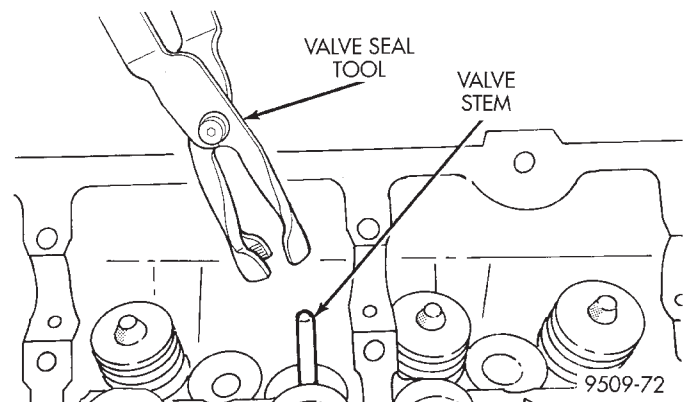

Fig. 109 Valve Stem Oil Seal Tool
(1) Coat valve stems with clean engine oil and insert in cylinder head.
(2) Install new valve stem seals on all valves using a valve stem seal tool (Fig. 109). The valve stem seals should be pushed firmly and squarely over valve guide.